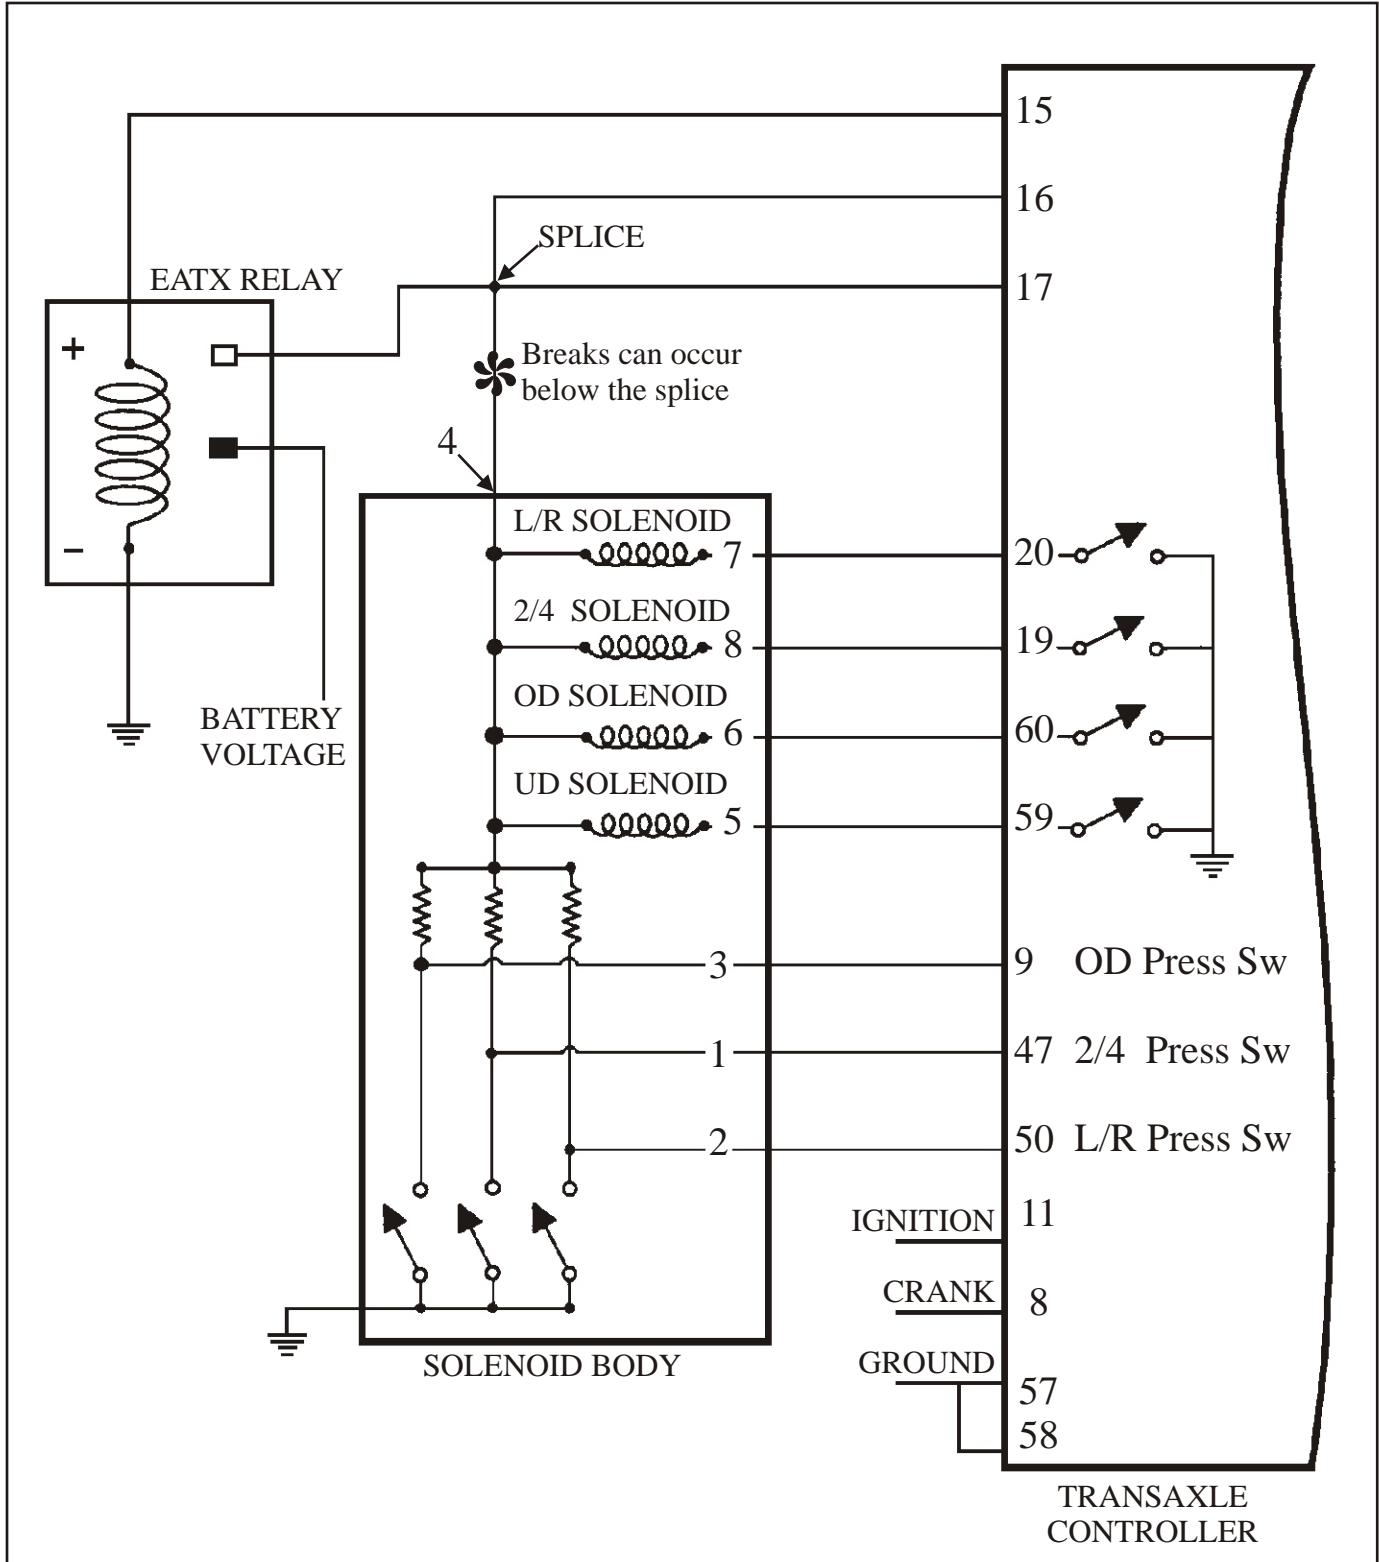

Figure 53
- If when making the above checks and the meter reads infinite on all solenoids, the power wire going to the # 4 pin in the solenoid body has been known to break below the splice as shown in Figure 53. Check for continuity between terminal 16 in the TCM connector to terminal 4 in the solenoid body connector.